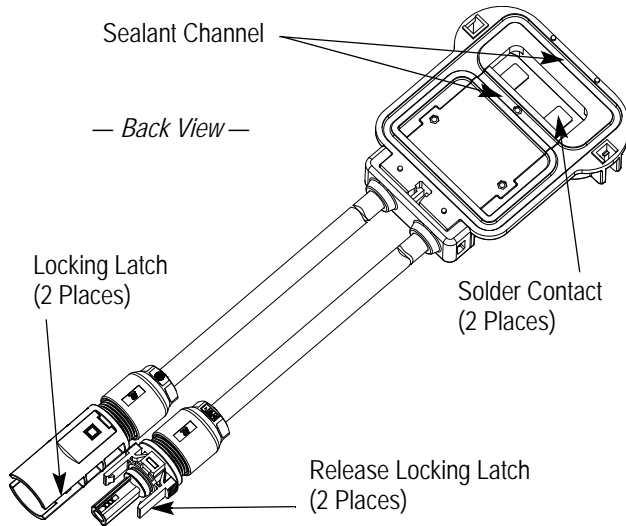

Figure 2
- cable assemblies are Underwriters Laboratories Inc. (UL) rated for ultraviolet (UV) light and outdoor exposure
3. Using Dow Corning Type 804 Room Temperature Vulcanization (RTV) Silicon Sealant, or equivalent, apply a continuous bead of sealant within the sealant channel of the micro assembly. Refer to Figure 2. Ensure that the applied bead of sealant completely fills the channel and is free of gaps.